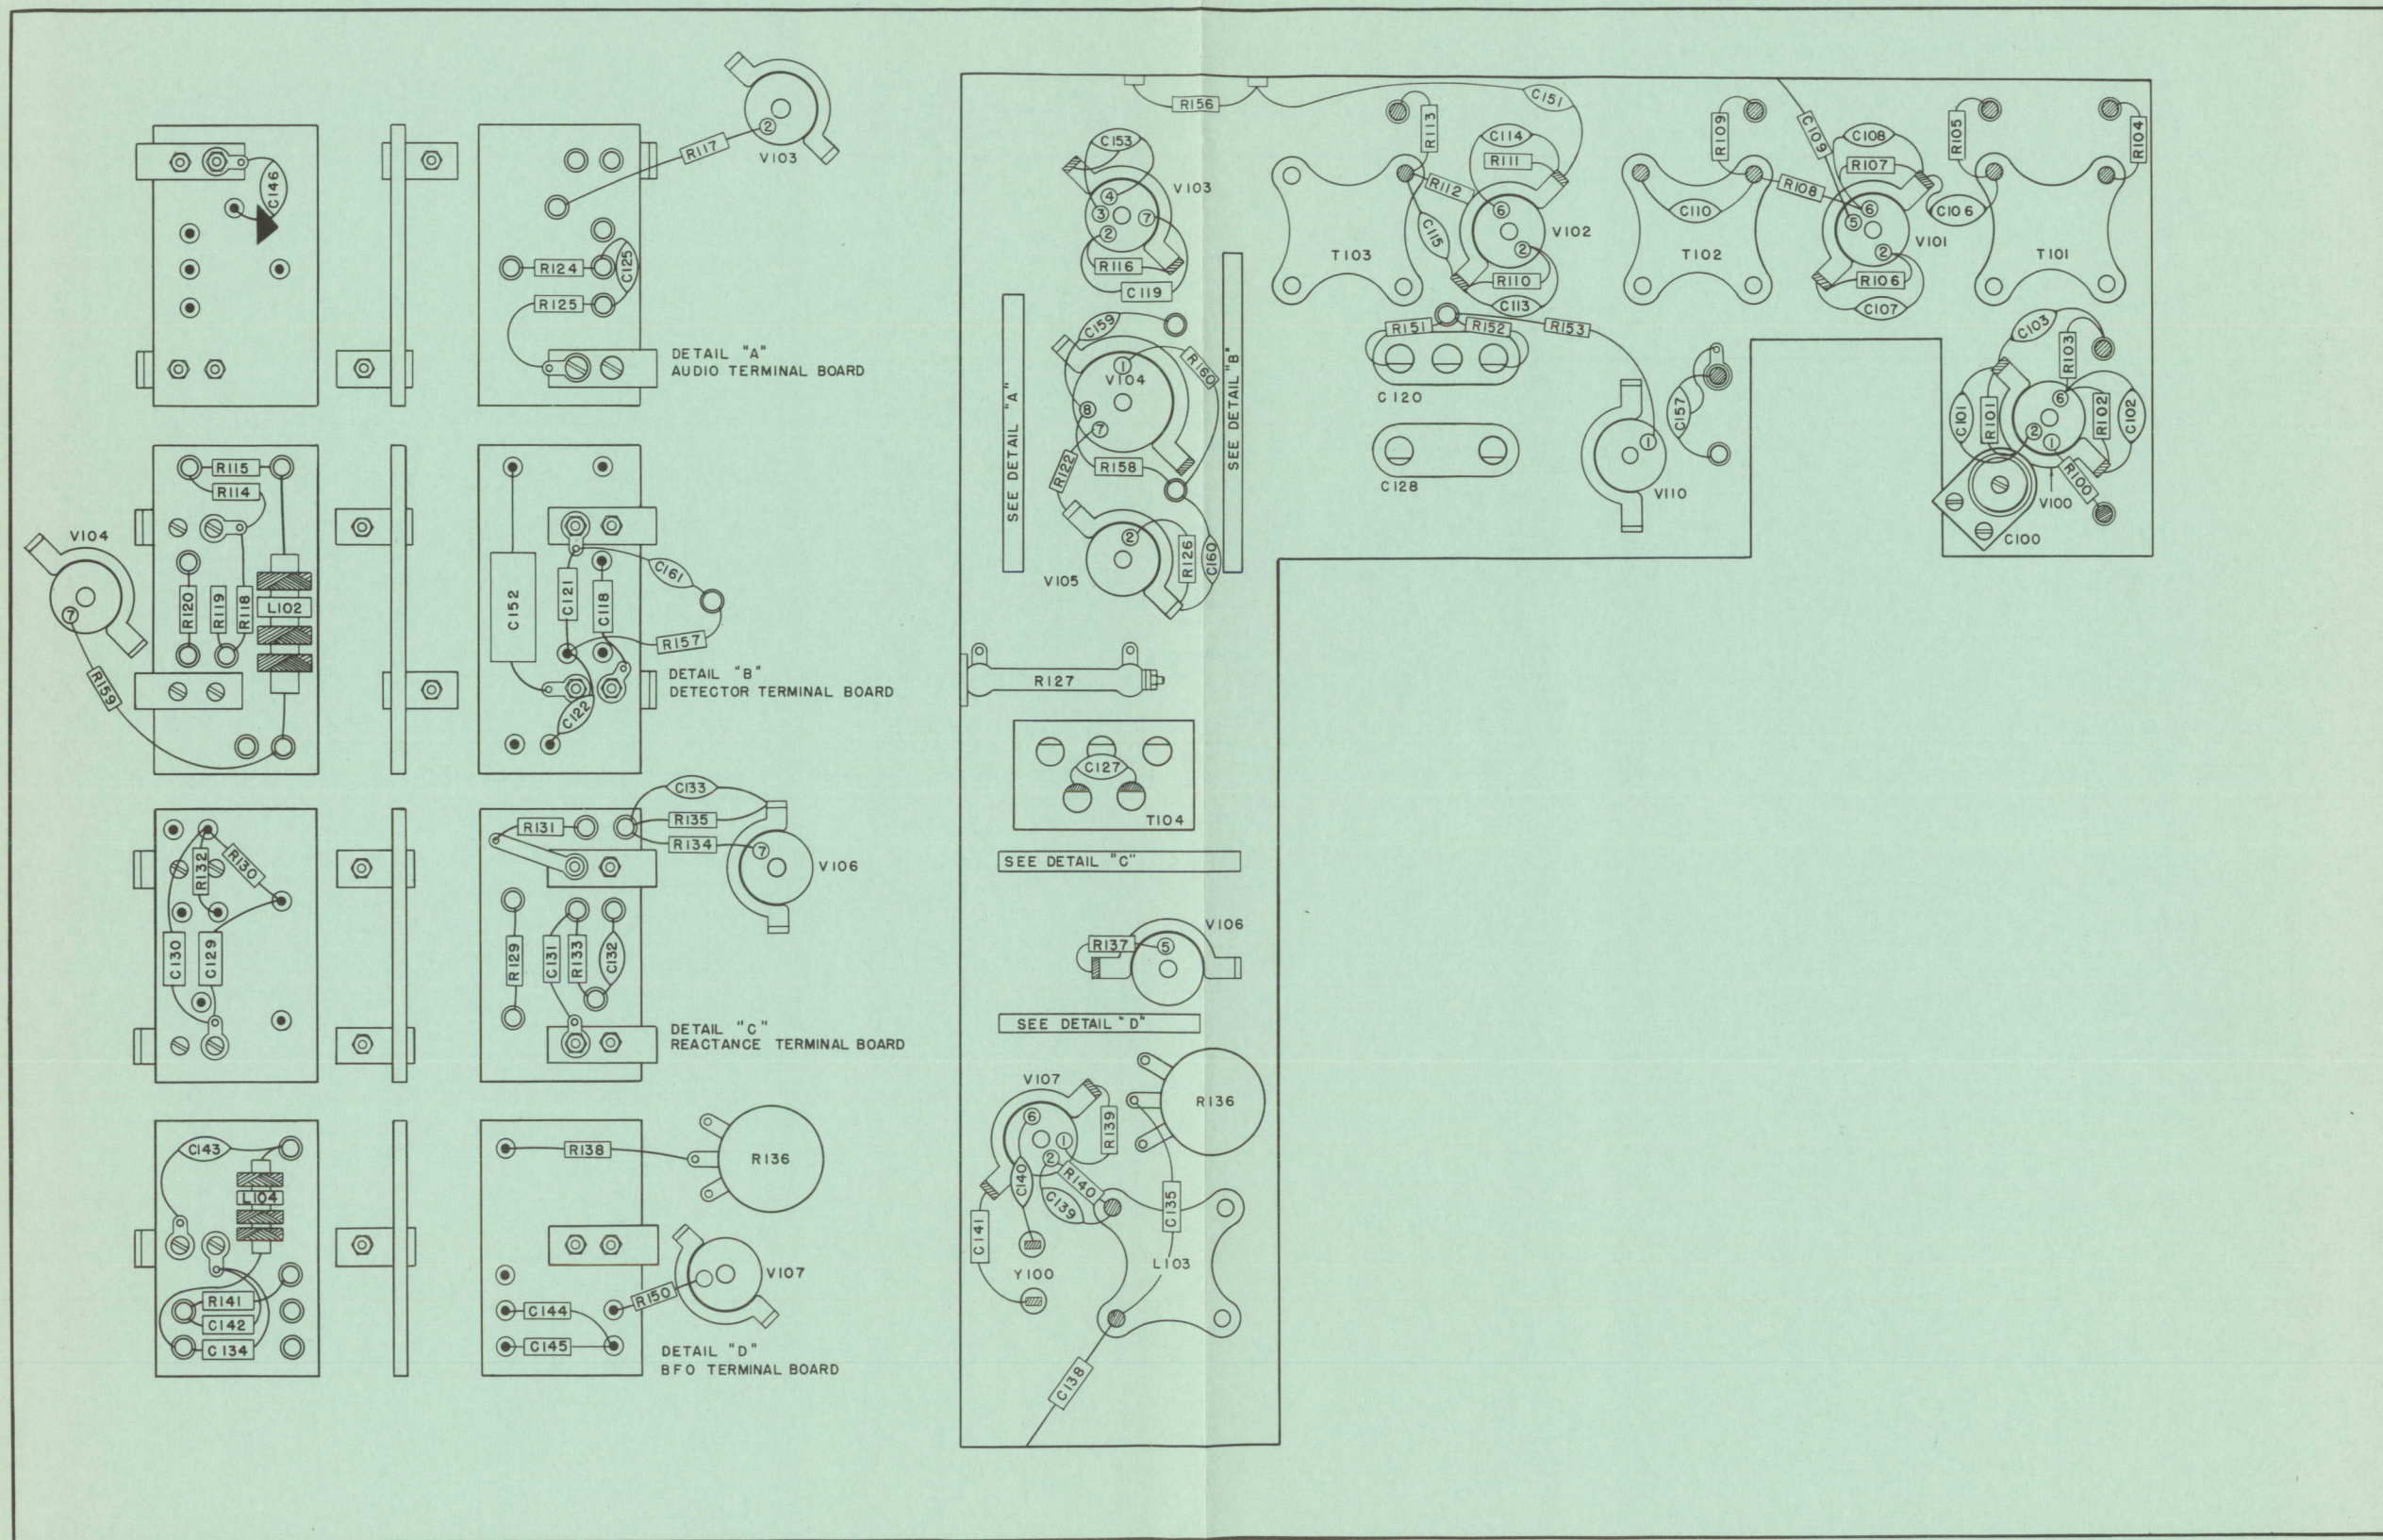

Figure 6 Pictorial Wiring Diagram (with Squelch), R-5007/FRR-502
- Figure 6 Pictorial Wiring Diagram (with Squelch), R-5007/FRR-502